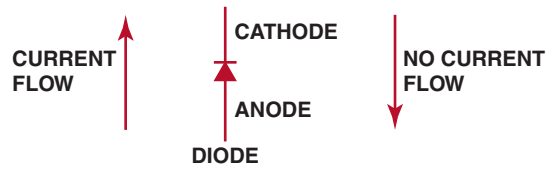

FIGURE 12-7 Diode symbol and electrode names. The stripe on one end of a diode represents the cathode end of the diode.
- Diodes are also used in computer controls, relays, air-conditioning circuits, and many other circuits to prevent possible damage due to reverse current flows that may be generated within the circuit. ● **SEE FIGURE 12-7.**